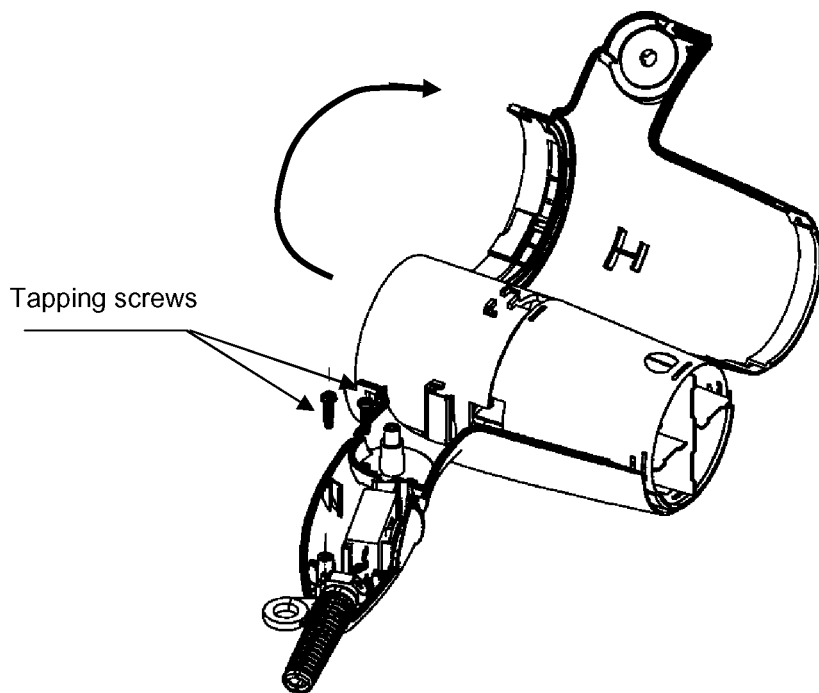

Figure 8
5. Take off a housing A from a housing B as figure 8.
Then remove tapping screws and a power cord retainer from handle B as figure 8.